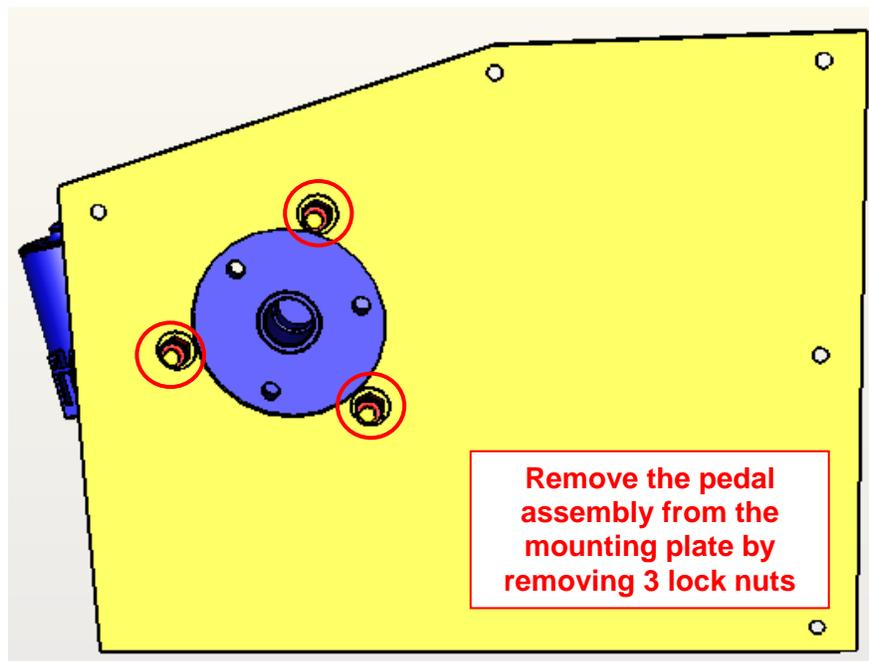

Figure 6: Remove the Pedal Assembly
17. Remove the pedal assembly from the mounting plate by removing 3 lock nuts shown in Figure 6. Discard locknuts and retain all remaining hardware for reuse.